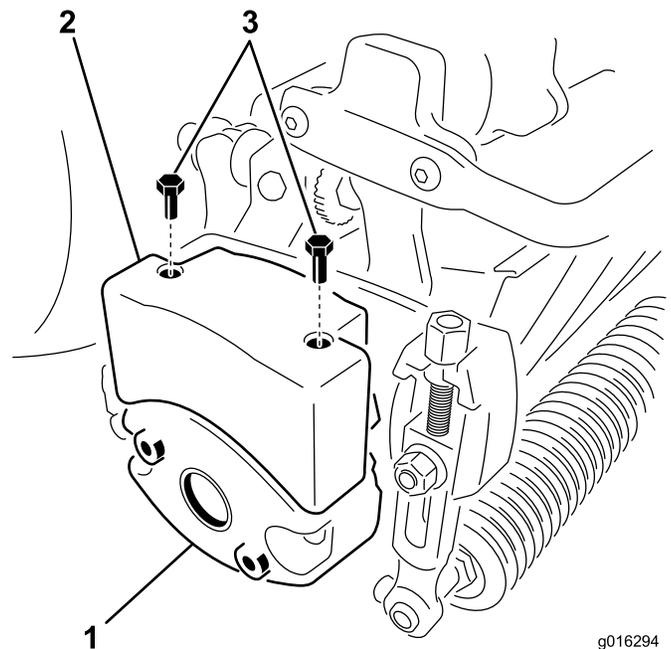

Figure 10
4. Remove the 2 bolts securing the weight to the side of the cutting unit (Figure 10).
6. Install an upper weight to the cutting unit weight using 2 hex head screws (Figure 10).